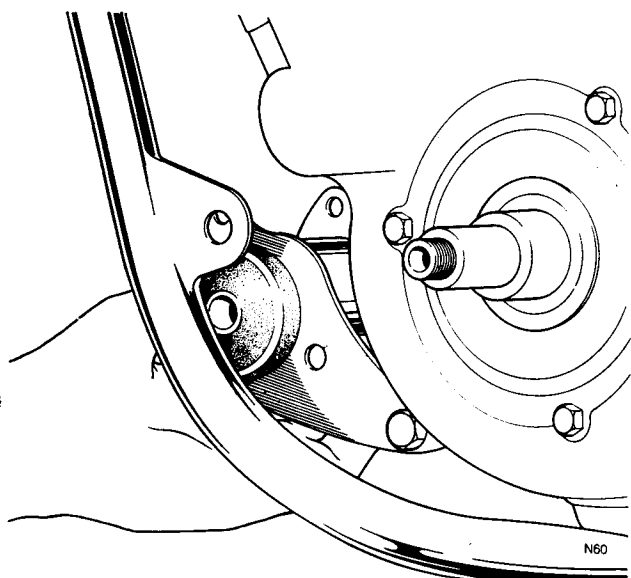

Fig. C39 Lifting front mounting into position using bottom bolt as pivot
- 3 Using the bottom stud as the pivot, lift the mounting into position on the crankcase bosses as in Fig. C39.